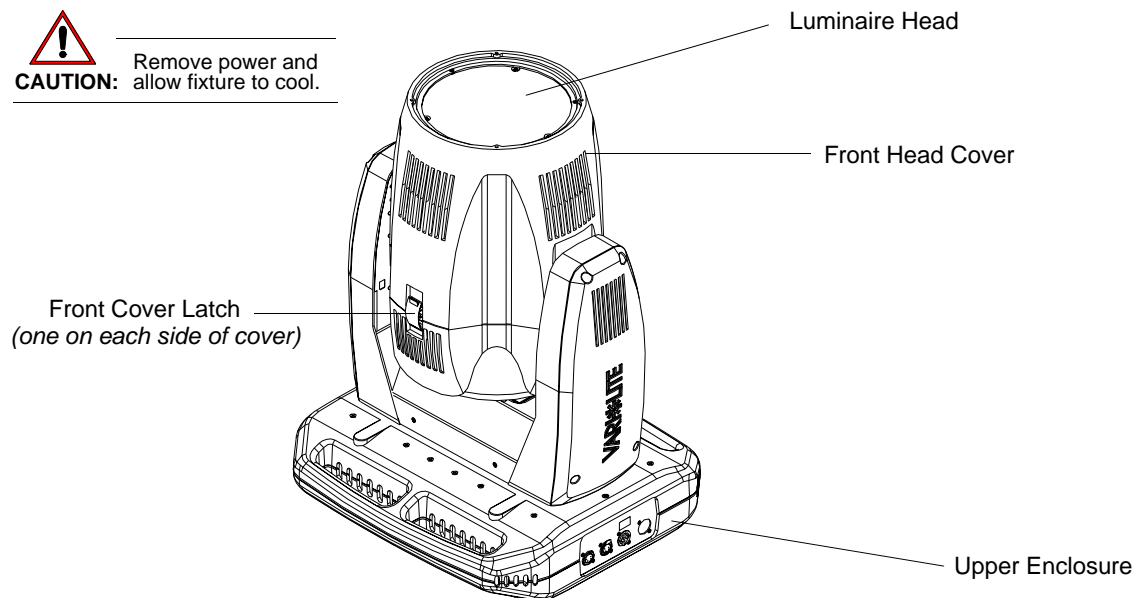

Figure 2-25: VLX Wash Luminaire
- Step 2. Carefully set luminaire on upper enclosure, rotate head as shown in Figure 2-25, and engage tilt lock.